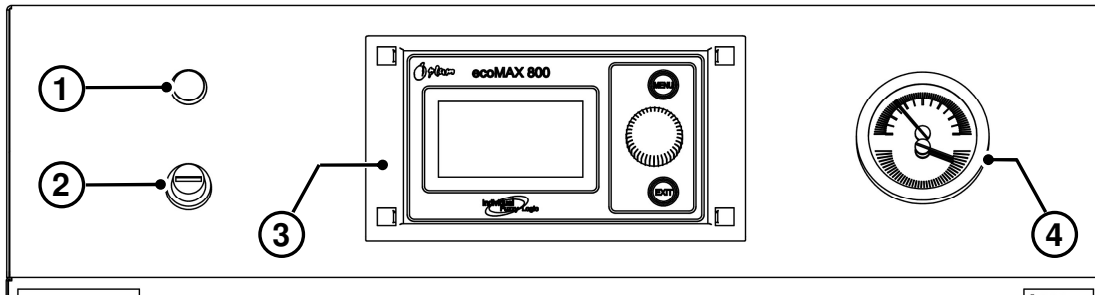

Fig. 2.3. Controller - front view
Figure 2.3 outlines the elements of the control system. *The Regulator Panel (3)* is used to set parameters.